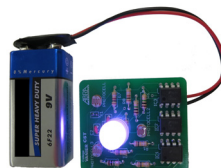

Fig.10
10. Install a 9 Volt battery as shown in fig.10.